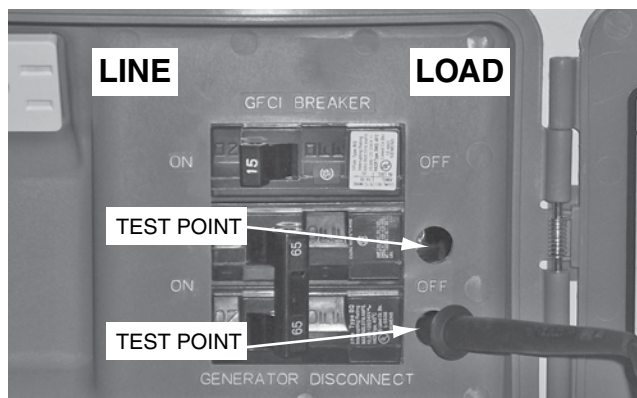

Figure 62. Test 2 Test Points
2. With the engine shut down, connect the meter test leads across the load terminals of the Generators MLCB. This will measure line-to-line voltage. See Figure 62.